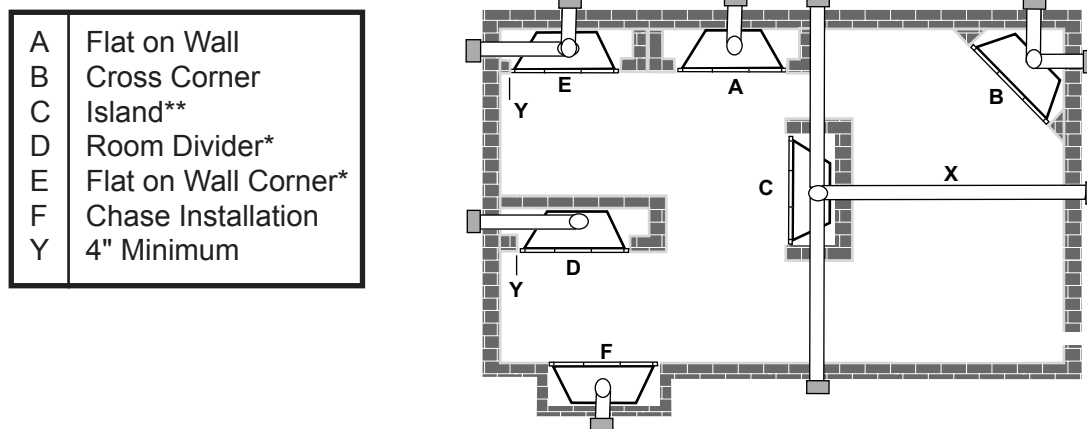

Figure 6 - Locating Gas Fireplace
- This fireplace may be installed along a wall, across a corner, or use an exterior chase. See *Figure 6* for suggested locations.